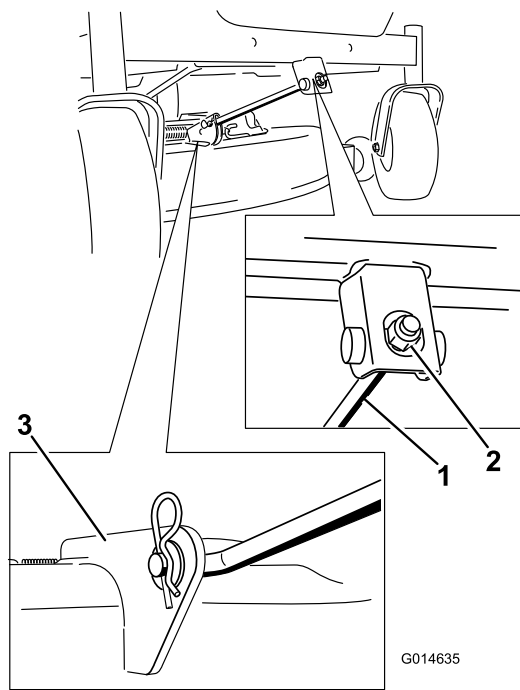

Figure 64
4. Remove the hairpin cotter from the front support rod and remove the rod from the deck bracket (Figure 64).
6. For 60-inch decks, remove the 2 deck-lift springs (Figure 64).
7. Attach the front support rod to the mower deck with the clevis pin and hairpin cotter (Figure 64).